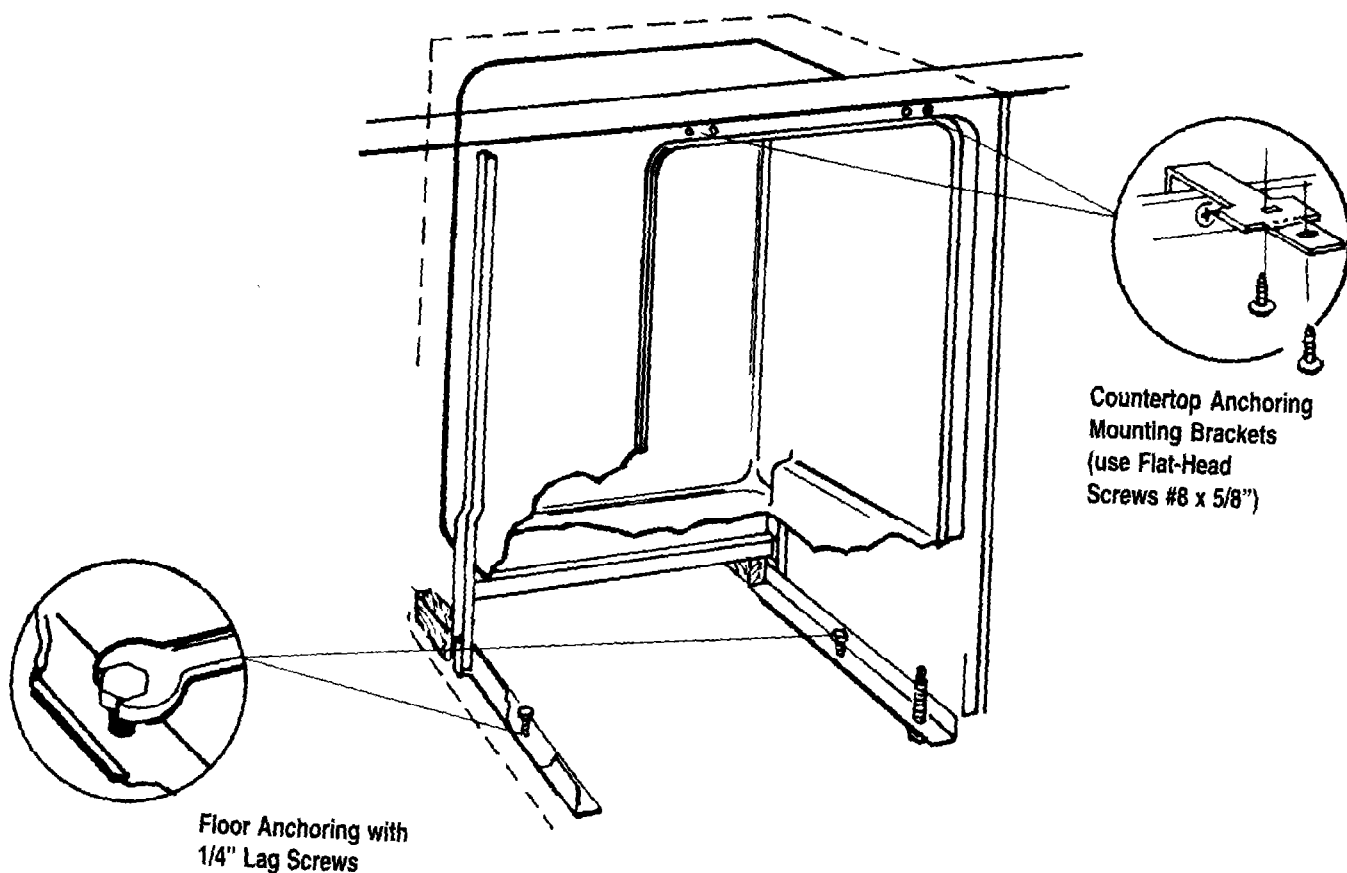

Figure 16
1. If necessary, adjust leveling screws so mounting brackets touch the underside of the countertop (see Figure 16).
1. Screw 1/4" lag screws (not included) through the holes provided in the frame rail (see Figure 16).